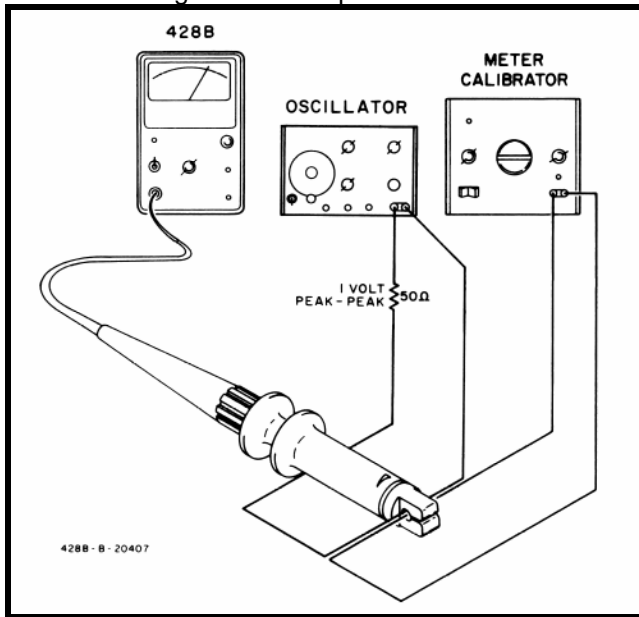

Figure 5-4. AC Overload.
- d. Clip the 428B probe onto BOTH the wire from the meter calibrator and the resistor lead from the function generator (see Figure 5-4).